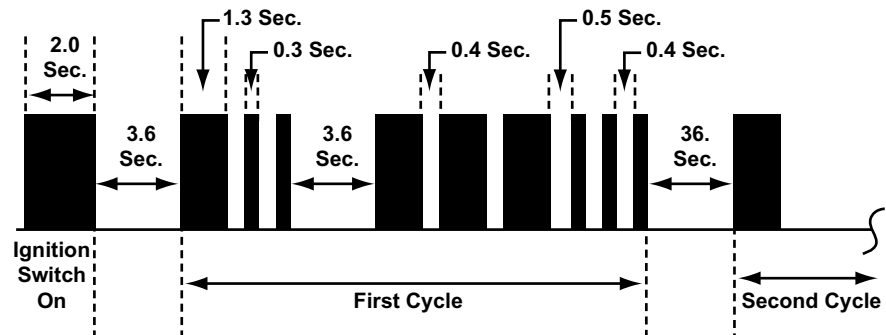

Figure 10-24 Isuzu ABS Code Type 02
- Type 02, see Figure 10-24 and Table 10-6 on page 109